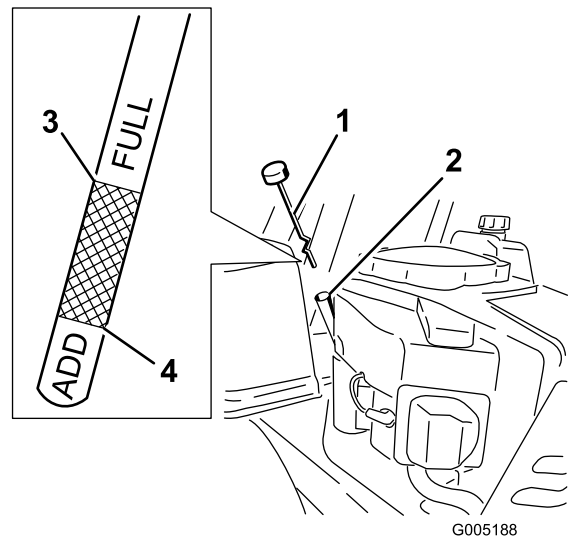

Figure 28
4. Unscrew and remove the dipstick; wipe oil off (Figure 28). Reinsert the dipstick into the tube and rest the cap on the tube. Do not screw the cap onto the tube.
5. Pull the dipstick out and check the oil level. (Figure 28).
8. Remove the oil fill cap/dipstick (Figure 28).
14. Slowly pour approximately 80% of the specified oil into the filler tube (Figure 28).
15. Install the oil fill cap/dipstick (Figure 28).
16. Check the oil level (Figure 28); refer to Checking the Oil Level.
18. Install the oil fill cap/dipstick and screw tight (Figure 28).